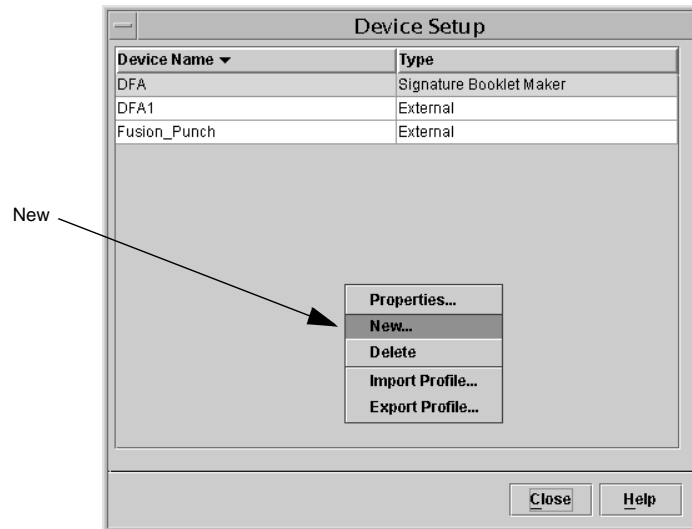

Figure 6-37 The Device Setup Drop Down List
4. Right click in a blank portion of the **Device Setup** Window, this will bring up a drop down list, select **NEW**, as shown in Figure 6-37.